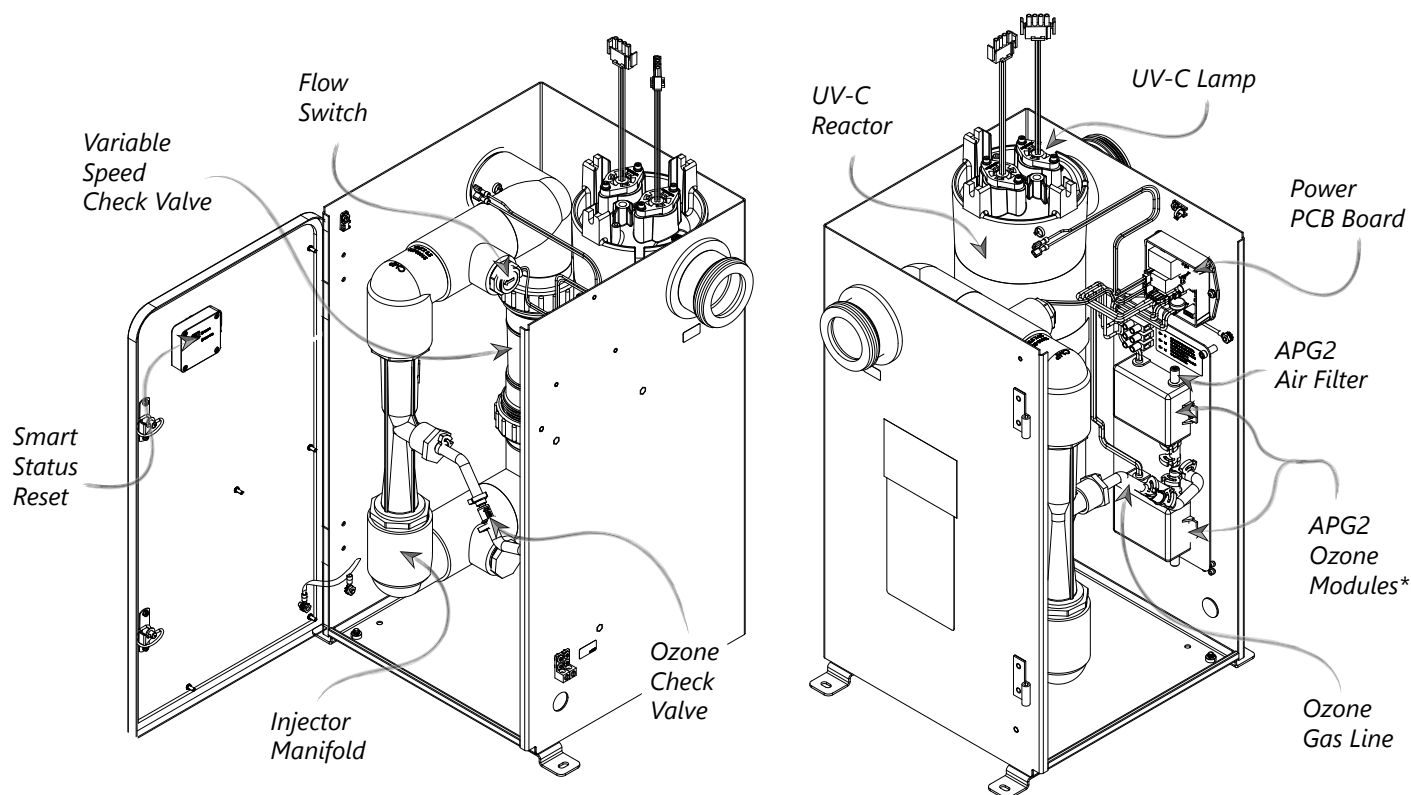
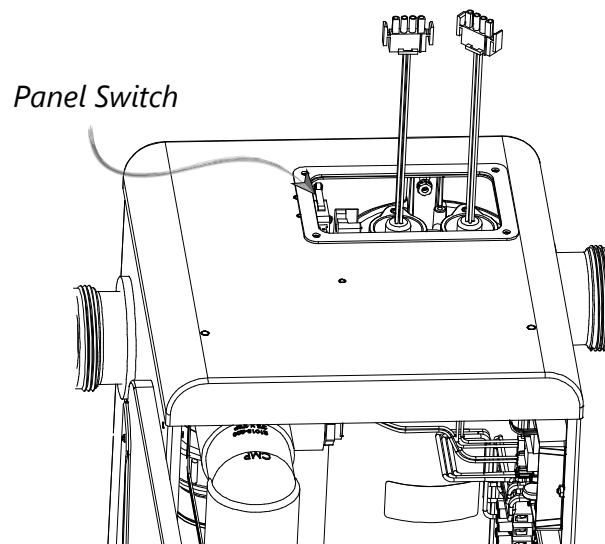

Figure 10: DEL AOP Electro-Mechanical Overview
Figure 12: Panel Switch Protection for UV Lamps
Gas from the ozone modules is drawn through the ozone gas line by the injector and into the water. The ozone check valve (refer to Figure 12) in this line prevents water from migrating back to the ozone modules when the DEL AOP is not running.
This component connects the ozone gas line to the injector manifold (refer to Figure 12). When servicing this component, do not tighten past 10 in-lbs torque or the component may be damaged.
There are two lamps in each Del AOP unit. The violet UV-C light on system smart status LEDs indicates UV lamps are operating properly (see Fig 10). If the UV lamp access panel is removed while the unit is running, the unit will be shut down automatically. (see Fig 12). The lamps are each housed in a quartz tube that protects the lamp.
8. Reset ozone indicator by pressing button on the inside door behind the Smart Status indicators. (Fig 10)
5. Reset UV indicator by pressing button on the inside door behind the Smart Status indicators. (Fig 10)